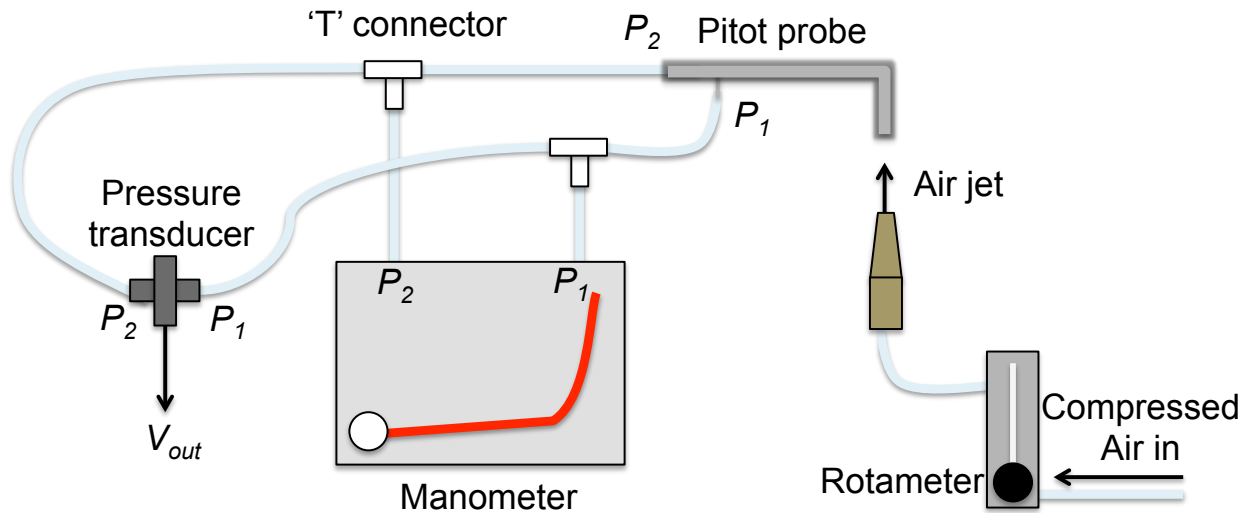

Figure 2 – A schematic of the experimental setup for calibrating the capacitive pressure transducer and measuring airspeed with the Pitot probe.
Shown in Figure 2 is a schematic of the overall experimental set-up. As you calibrate the pressure transducer, you will *simultaneously* measure the airspeed of a jet as a function of flow rate. Theoretically, the average velocity $\langle u \rangle$ is related to the flow rate Q by the equation
3. Sketch the experimental set-up shown in Fig. 2 in your lab notebook.
4. Construct the set-up shown in Fig. 2.